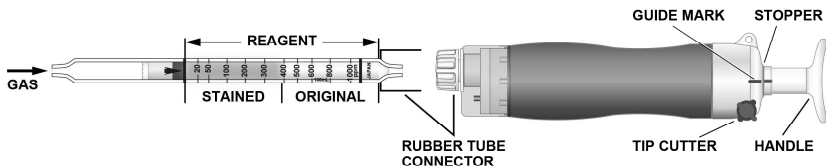

Fig.1
- ② Insert the detector tube into the aspirating pump securely as shown in Fig.1. (Arrow mark shall point to the pump.)
- ③ Align the guide marks on the shaft and stopper of the aspirating pump.
- ④ Pull the pump handle at a full stroke until it locks and wait for 2 minutes or until the completion of sampling is confirmed with the flow indicator of the pump. (See descriptions about the flow indicator in the instruction manual of the pump.)
- ⑤ On completion of sampling, read the scale at the maximum point of the stained layer.
- ① Temperature: To correct for temperature, multiply the tube reading by the following factors.